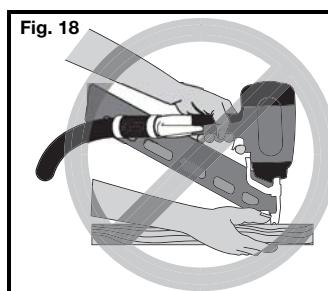

Fig. 18
- **Always keep fingers clear of nail track of magazine to prevent injury from inadvertent release of the pusher.** (Fig. 18)